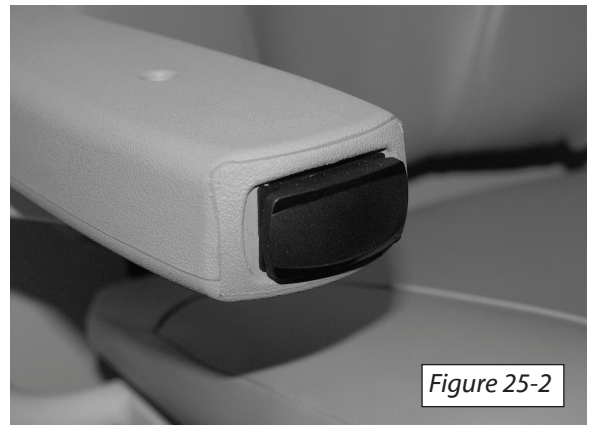

Figure 25-2
9. Use the armrest control switch to run the lift down the rail approximately 30". [Figure 25-2]